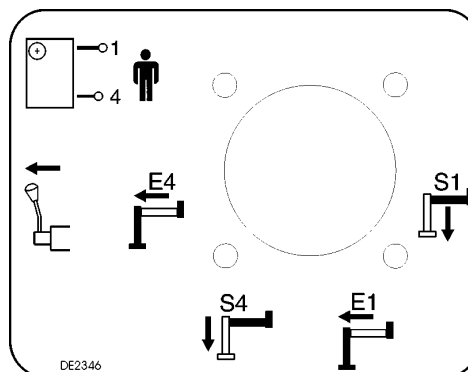

*fig. 20b*
- Position lever **D** of oil diverter crane-outriggers (⌘ - E/S) on E/S. Fig. 20b
- Position lever **D** of oil diverter crane-outriggers (  - **E/S**) on **E/S**. Fig. 20b